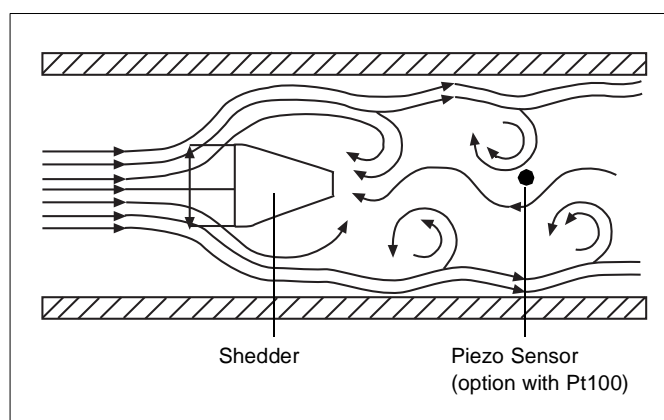

Fig. 8 Karman Vortex Street
The operation of the Vortex Flowmeter (VFM) is based on the Karman Vortex Street principle. Vortices are formed alternately on both of its sides as a fluid flows around the shedder body. The flow causes these vortices to be shed forming a vortex street (Karman Vortex Street) (Fig. 8).
- the recommended in- and outlet straight sections are provided (Fig. 8).